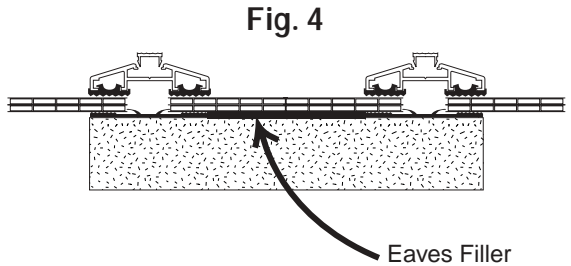

Fig. 4
Step 3: At the same time, fix the eaves filler (Ref. 226F) across the structure at the eaves end (Fig. 4). This solves the problem of filling the gap between the underside of the sheet and the top of the support structure.